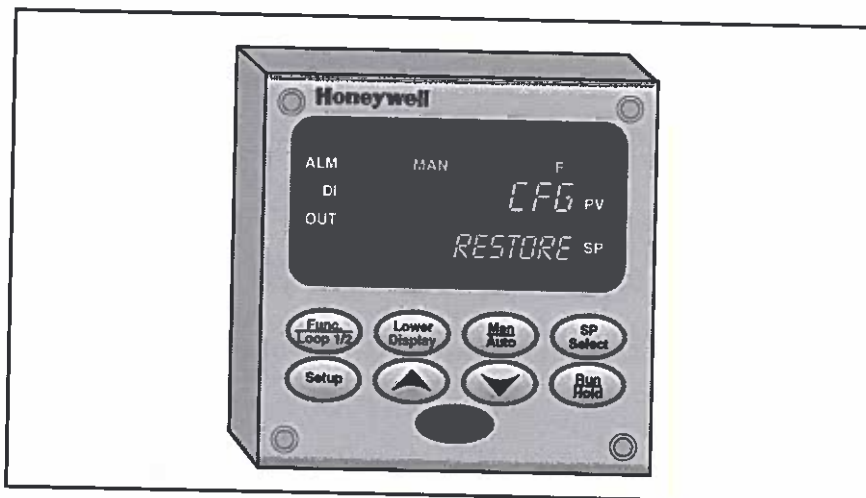

Figure 39. Configuration Restore Menu Display
**Step 3: Select the Config Restore option** – Pressing the Func Loop 1/2 key causes the restore menu to appear. DIS should appear in the upper display and RESTORE should appear in the lower display. Pressing the ▲ key moves to the next menu item, Configuration Restore. CFG should appear in the upper display and RESTORE should appear in the lower display, as figure 39 shows.